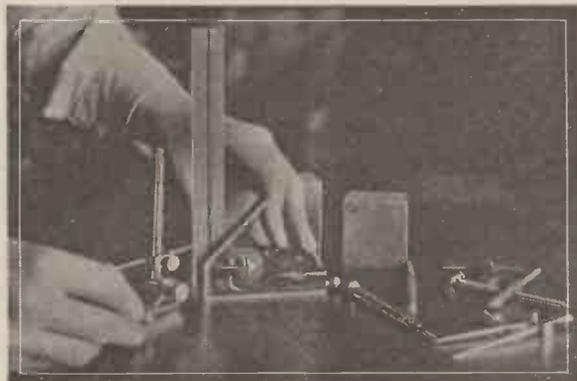

Fig. 1.—An efficient type of scribing block and universal square.
▶ The essential tools are a surface gauge or scribing block, a good stiff steel rule, small dividers, square, scriber and a centre punch. A small angle bracket is useful under certain conditions when one or two clamps will also be required for use in conjunction with it. A simple form of scribing block consists of a reasonably heavy circular base, the underside of which is machined and recessed so that it will lay flat without rocking, and capable of sliding freely on a flat surface. This base supports a vertical spindle upon which slides a split boss carrying a scribing needle, the needle being locked by the action of tightening a knurled nut. The setting of the point of the scriber is dependent on trial and error or lightly tapping the scriber, when only held friction tight, in the desired up or down direction. A scribing block of the type shown in Fig. 1 is much more desirable for fine work. The spindle of this is connected to a rocker bar which has a screw adjustment at the rear end. After setting the point of the scriber approximately and locking it tight it is corrected by tilting the bar to raise or lower the point by means of the knurled adjusting screw. It is necessary to have a flat surface on which to rest the work while marking off. Failing a proper machined surface plate, a square of plate glass makes an efficient substitute for light work.